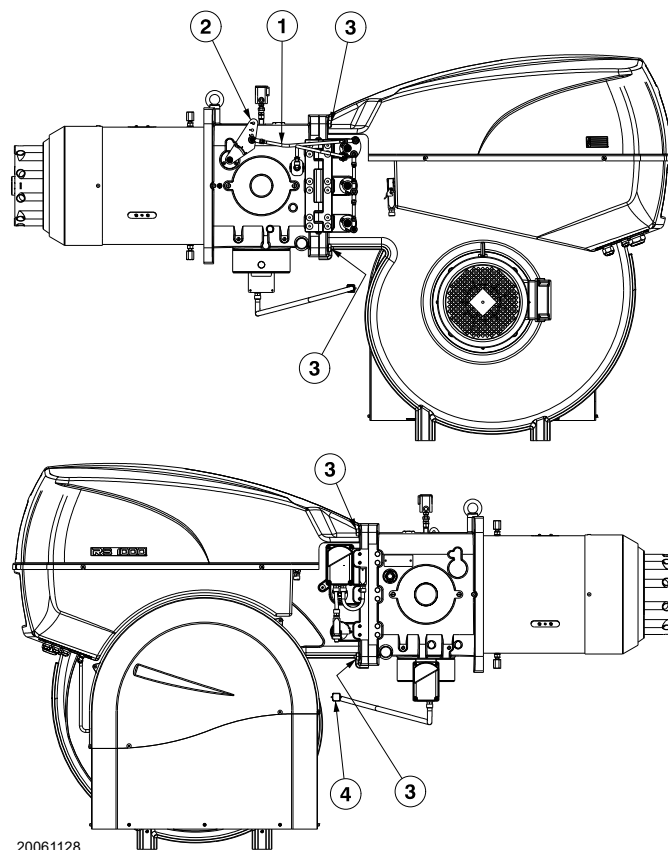

Fig. 33
- Remove the tie-rod 1)(Fig. 33) of the head movement lever, undoing the nut 2);